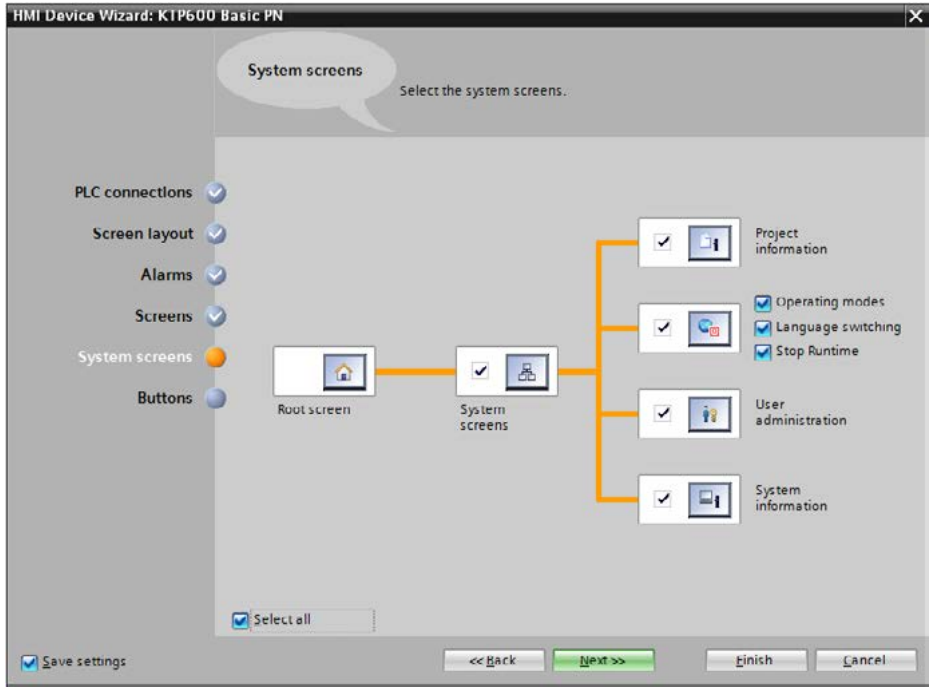

Fig. 16.4 Configuring system screens using the HMI device wizard
- ▷ In the *System screens* window you can specify which predefined screens are to be used to display system functions such as operating modes, user administration, and project and system information (Fig. 16.4).